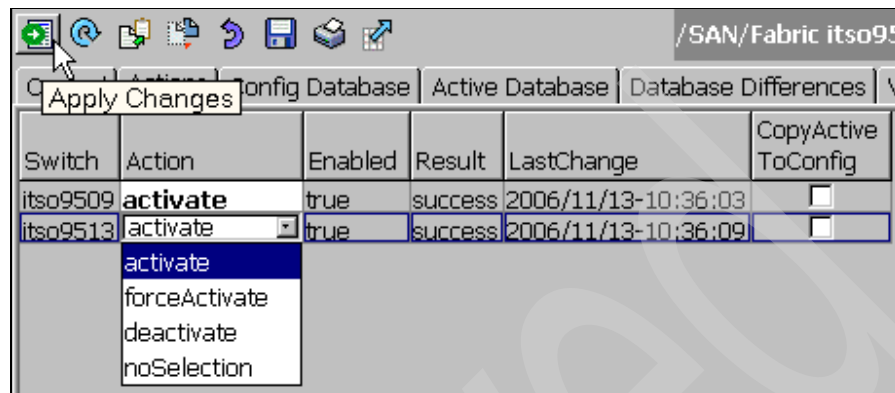

Figure 32 Activate new fabric binding database
5. Activate the newly defined configuration database: Click the **Actions** tab, click in the Action column for each switch and select **activate** from the pull-down selection list. Click the **Apply Changes** icon (Figure 32).